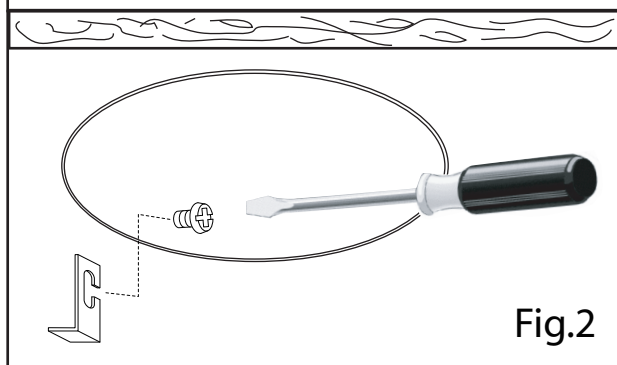

Fig.2
3. Slightly loosen the 3 screws inside the can (no need to remove them completely from the can). Slide the "L" shape clip onto the screw. Tighten the screws after adjustment. (Fig.2)